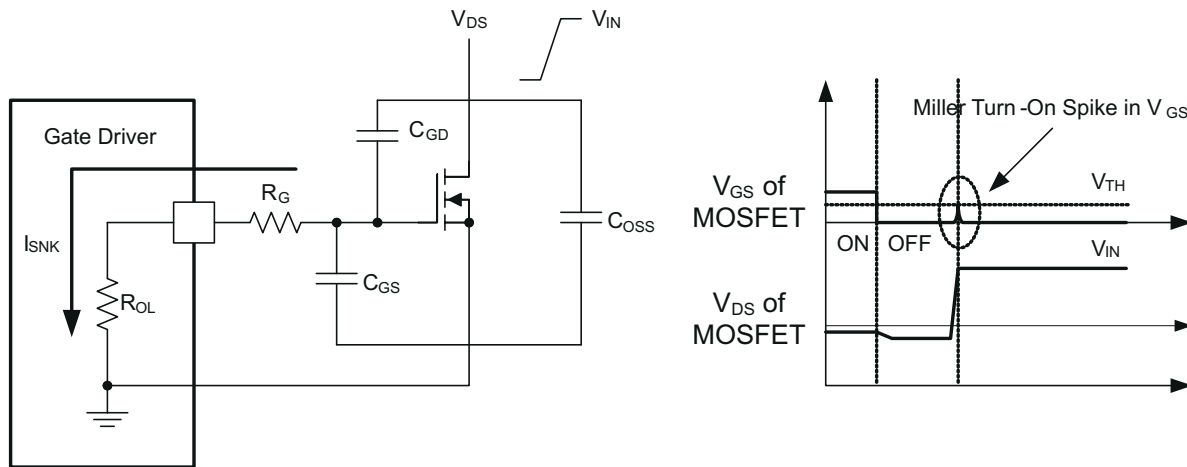

图 7-3. Low Pull-Down Impedance in UCC27332-Q1 (Output Stage Mitigates Miller Turnon Effect)
An example of a situation where Miller turnon is a concern is synchronous rectification (SR). In SR application, the  $dV/dt$  occurs on MOSFET drain when the MOSFET is already held in OFF state by the gate driver. The current charging the  $C_{GD}$  Miller capacitance during this high  $dV/dt$  is shunted by the pulldown stage of the driver. If the pulldown impedance is not low enough then a voltage spike can result in the  $V_{GS}$  of the MOSFET, which can result in spurious turnon. This phenomenon is illustrated in 图 7-3.